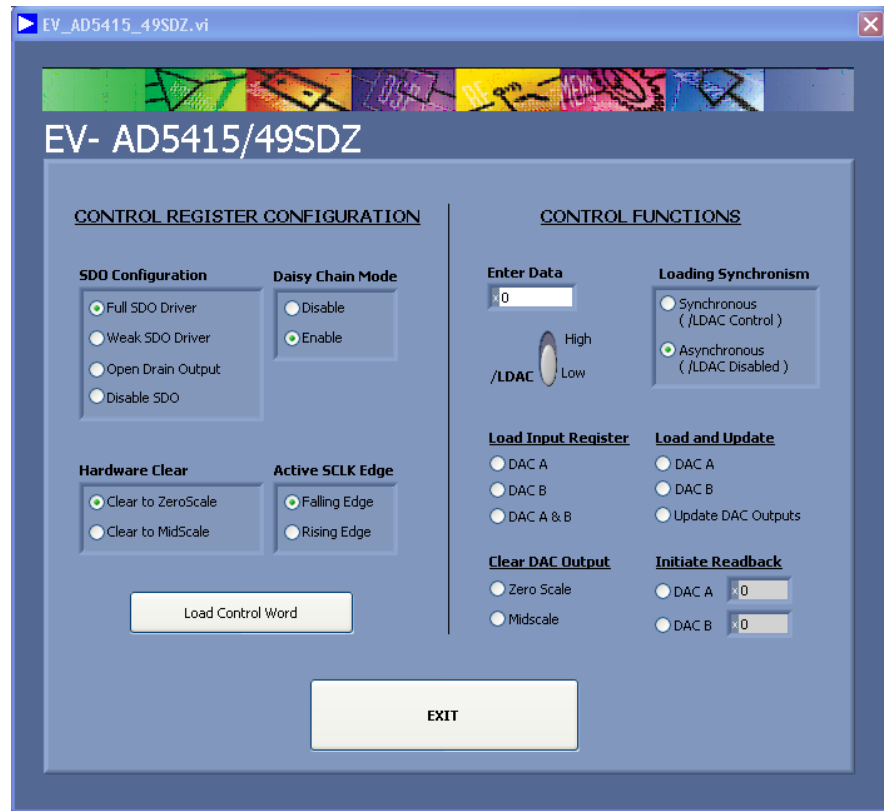

Figure 5. Evaluation Software Window
2. Run the program file from **Start/All Programs/Analog Devices**. The EV-AD5415/49SDZ window opens, as shown in Figure 5.